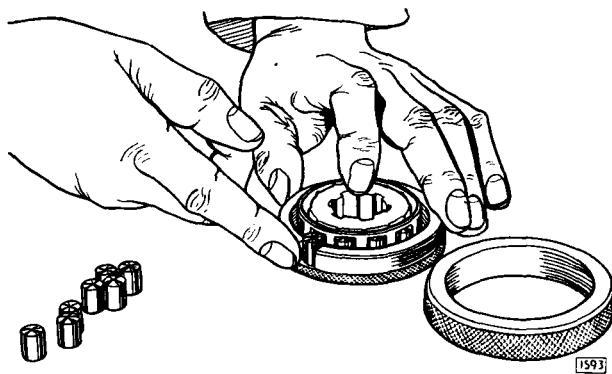

Fig. 27. Assembly of the uni-directional clutch (Tool No. L.178).
2. Replace the thrust washer and uni-directional clutch inner member with its rollers and cage. A fixture (Fig. 27) is needed for retaining the rollers in position when assembling the clutch.